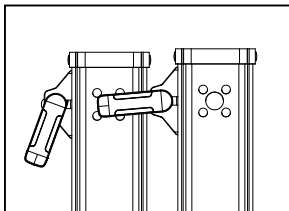
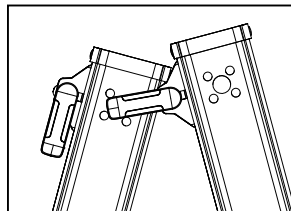

Figure 8
Figure 9
4) Lower the outer ladder section with the disengaged “J” locks (See Figure 8) while spreading the two sections apart to form the second trestle required for the scaffold position. See Figure 9.